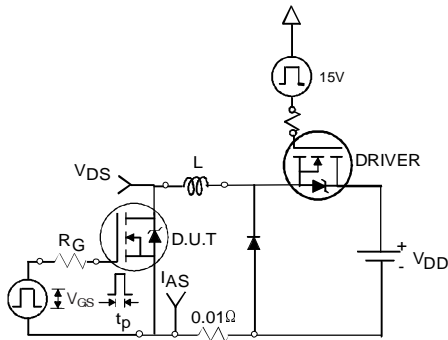

Fig 12a. Unclamped Inductive Test Circuit
- ③ Pulse width $\leq 1.0\text{ms}$; duty cycle $\leq 2\%$.
- ④ $C_{oss\ eff.}$ is a fixed capacitance that gives the same charging time as C_{oss} while V_{DS} is rising from 0 to 80% V_{DSS} .
- ⑤ Limited by T_{Jmax} ; see Fig.12a, 12b, 15, 16 for typical repetitive avalanche performance.
- ⑥ This value determined from sample failure population. 100% tested to this value in production.
- ⑦ This is only applied to TO-220AB package.
- ⑧ When mounted on 1" square PCB (FR-4 or G-10 Material). For recommended footprint and soldering techniques refer to application note #AN-994.
3. Equation below based on circuit and waveforms shown in Figures 12a, 12b.